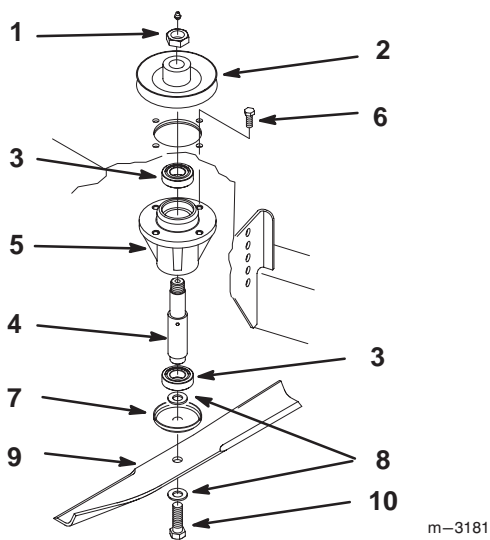

Figure 38
3. Remove blade bolt, washers, blade and spindle cup (Fig. 38).
4. Remove locknut retaining spindle pulley on spindle shaft (Fig. 38).
5. Remove bolts securing spindle housing to mower (Fig. 38).
7. Press spindle and bearings out of housing (Fig. 38).
8. Press new bearings and spindle into housing (Fig. 38).
9. Slide pulley end of spindle assembly through hole in mower. Secure spindle assembly in place with bolts previously removed (Fig. 38).
10. Slide pulley onto spindle shaft and secure with locknut (Fig. 38).
12. Install washer, spindle cup and blade (Fig. 38). Secure with previously removed bolt and washer.